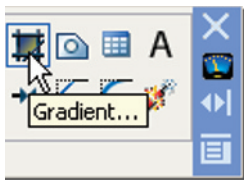
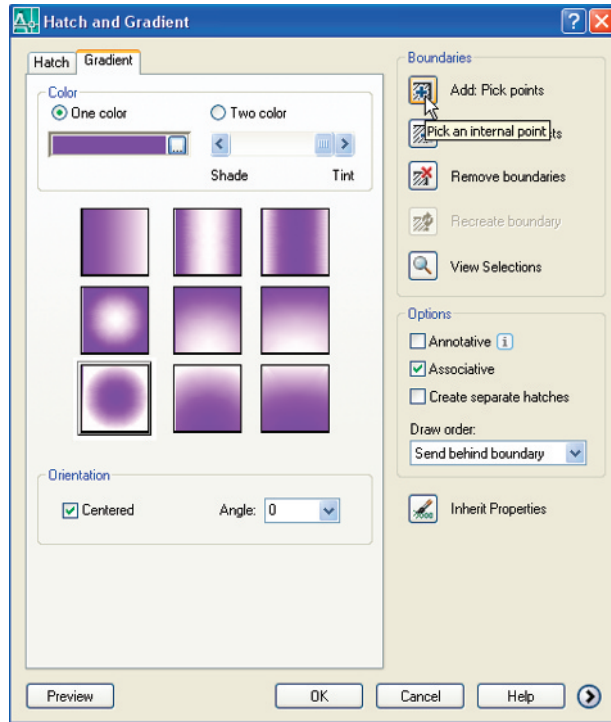

Fig. 8.7 The **Gradient Hatch** tool icon from the **2D Draw** control panel
Fig. 8.8 The **Hatch and Gradient** dialog
Fig. 8.8 shows two examples of hatching from the **Gradient** sub-dialog of the **Hatch and Gradient** dialog.
2. Click the **Gradient...** tool icon in the **2D Draw** control panel (Fig. 8.7) or in the **Draw** toolbar. In the **Hatch and Gradient** dialog which appears (Fig. 8.8) pick one of the gradient choices, followed with a click on the **Pick an internal point** button. Click one of the color panels in the dialog and when the dialog disappears, pick a single area of one of the rectangles in the left-hand drawing, followed by a click on the dialog's **OK** button when the dialog reappears.